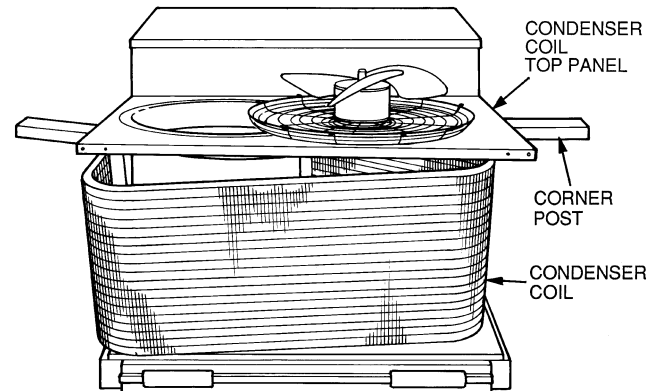

Fig. 37 — Propping Up Condenser Coil Top Cover
8. Use right corner post to prop up right side of condenser coil top cover. Slide condenser coil partially out of condenser fan housing. See Fig. 37.